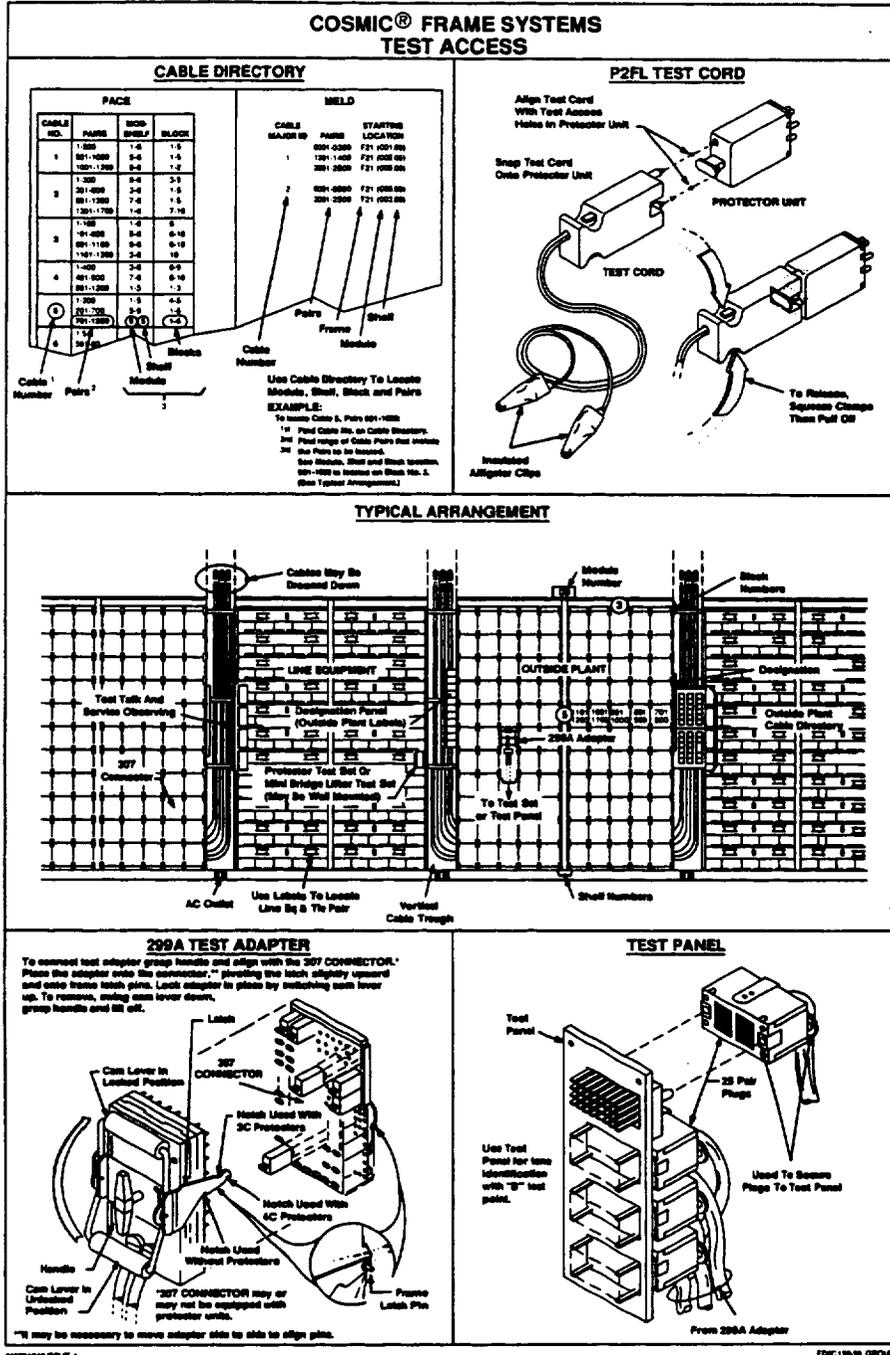

Figure 36. Frame Operations Decal—Protector Side
4.15 The protector side decal (Figure 36) for *COSMIC* IIA DFs depicts the test cords and equipment arrangement and includes a cable directory.